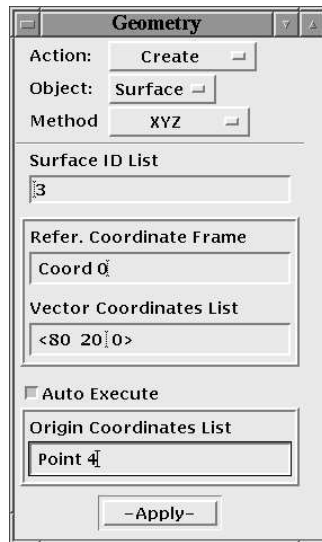

Figure 15: Creating surface - XYZ method
- Leave the 'Action' at 'Create' and the 'Object' at 'Surface'. Change the 'Method' to 'XYZ'. The form should be as shown in **Figure 15**: